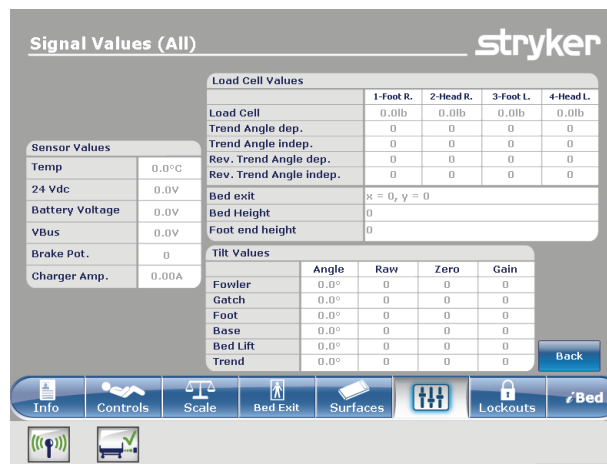

Figure 94: Signal Values
**Signal Values:** Lists all the sensors and their current signal values (Figure 94 on page 86).